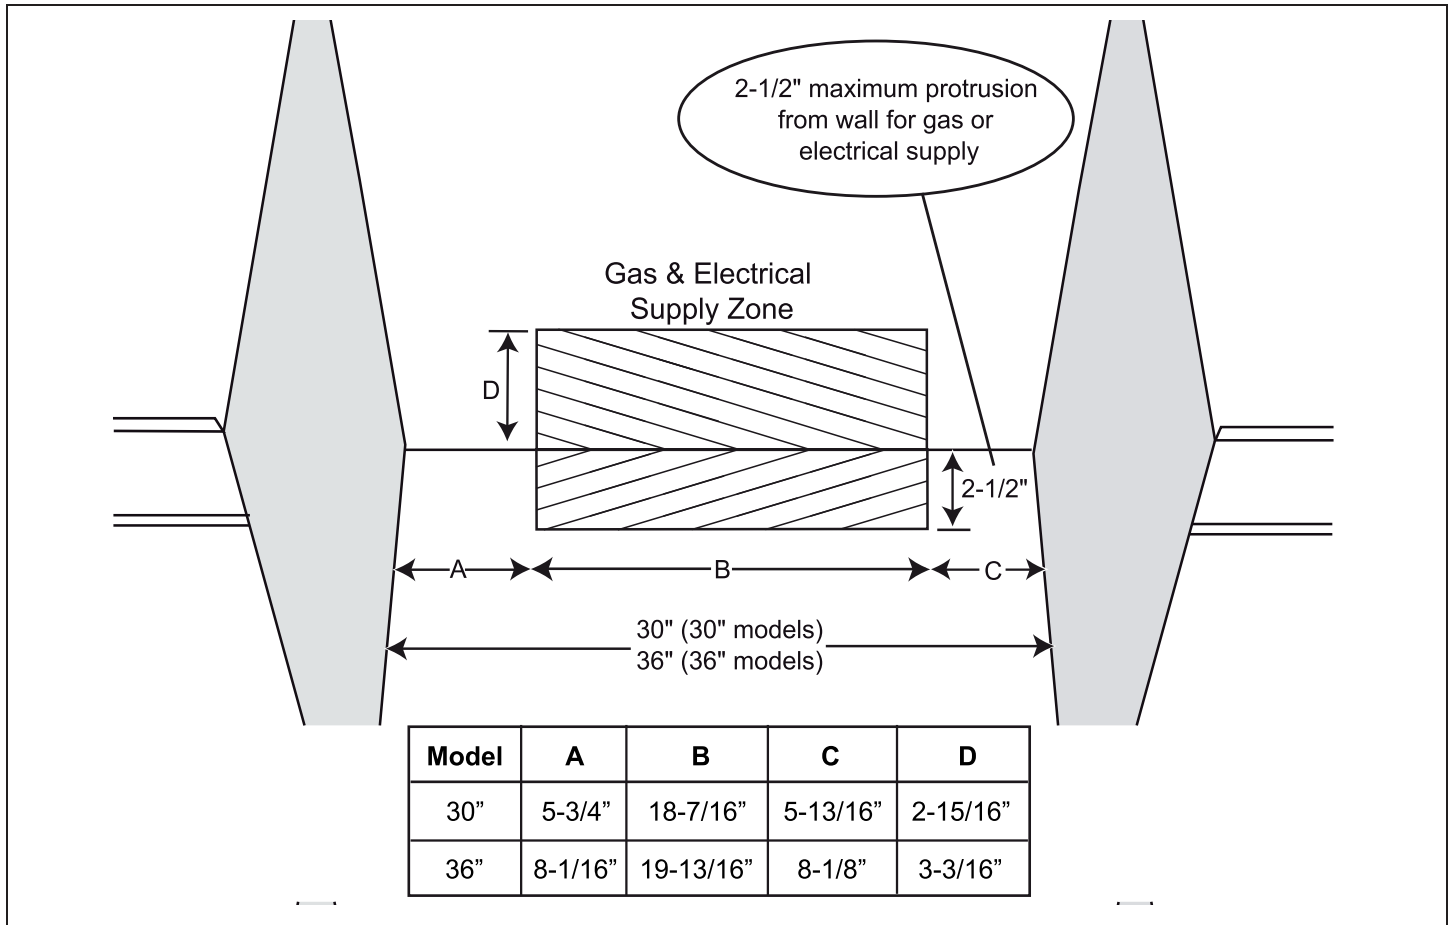

Figure 3a: Gas & Electrical Supply Locations for 30" and 36" Gas Ranges
3. The gas and electrical supply should be within the zone shown in Figure 3a.